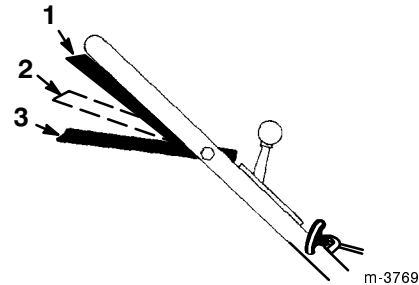

Figure 10
3. Squeeze the control bar against the handle to the *Run/Drive* position (Fig. 10).
Note: Do not shift speeds while you squeeze the control bar against the handle in the *Run/Drive* position; this can damage the transmission. Move the control bar to the *Run/Shift* position (Fig. 10) when you change the ground speed.